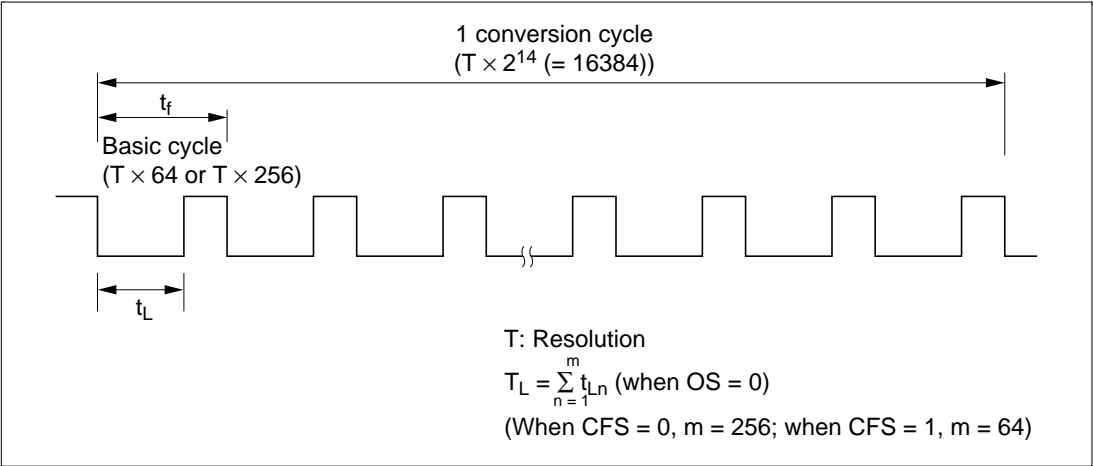

Figure 10.3 PWM D/A Operation
A PWM waveform like the one shown in figure 10.3 is output from the PWMX pin. When OS = 0, the value in DADR corresponds to the total width (T_L) of the low (0) pulses output in one conversion cycle (256 pulses when CFS = 0, 64 pulses when CFS = 1). When OS = 1, the output waveform is inverted and the DADR value corresponds to the total width (T_H) of the high (1) output pulses. Figure 10.4 shows the types of waveform output available.
Table 10.4 summarizes the relationships of the CKS, CFS, and OS bit settings to the resolution, base cycle, and conversion cycle. The PWM output remains flat unless DADR contains at least a certain minimum value. Table 10.4 indicates the range of DADR settings that give an output waveform like the one in figure 10.3, and lists the conversion cycle length when low-order DADR bits are kept cleared to 0, reducing the conversion precision to 12 bits or 10 bits.